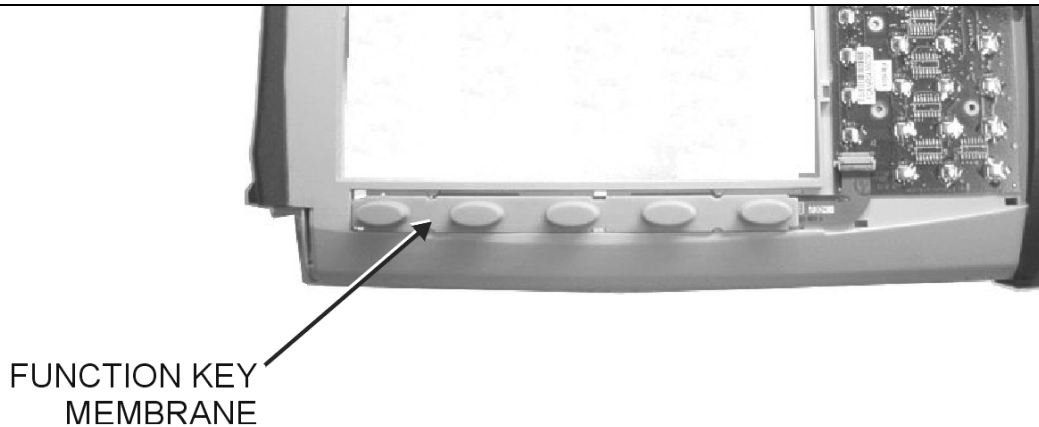

Figure 20. Function Key Membrane
4. Remove the function key membrane by gently pulling the membrane up and away from the front panel (Figure 20).